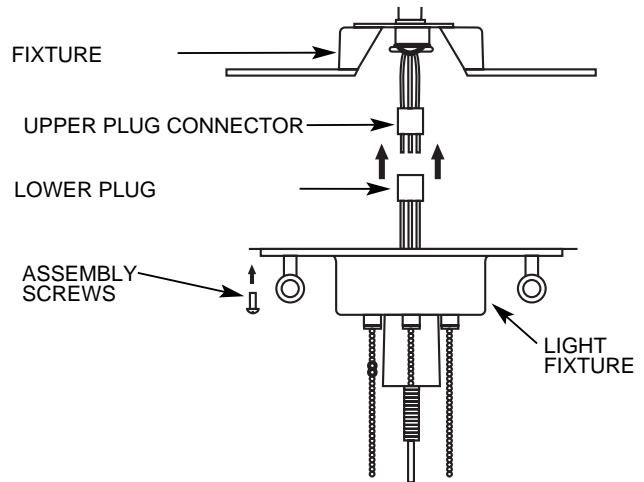

Figure 9C
Plug the upper and lower plug connectors together. See Figure 9C. The connectors are keyed and will only go together one way.
Attach the light fixture to the fixture fitter using (3) 3/8" long Phillips round head screws with lockwashers. See Figure 9C. Tighten the screws securely.